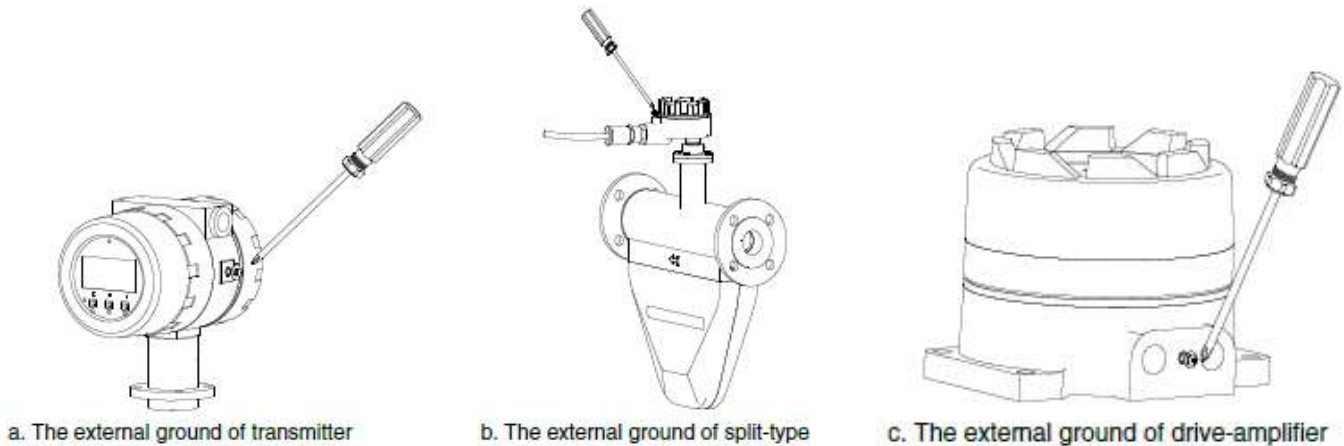

Fig. 4.13 External grounding
- » The cross-sectional area of the external grounded wire must be ≥ 4mm², and the external grounding position is shown in figure 4.13 below.